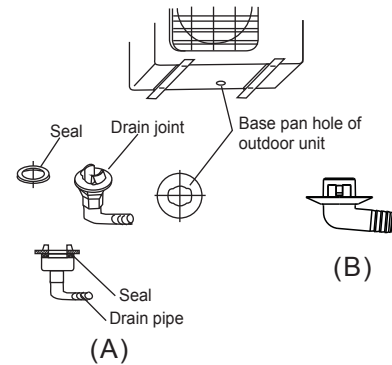

Fig.15
For the drain joint with the seal (Fig. 15 (A)), first fit the seal onto the drain joint, then insert the drain joint into the base pan hole of outdoor unit, rotate 90° to securely assemble them. To install drain joint as shown in Fig.15 (B), insert the drain joint into the base pan hole of outdoor unit until it remains fixed with a clicking sound. Connecting the drain joint with an extension drain hose (Locally purchased), in case of the water draining off the outdoor unit during the heating mode.